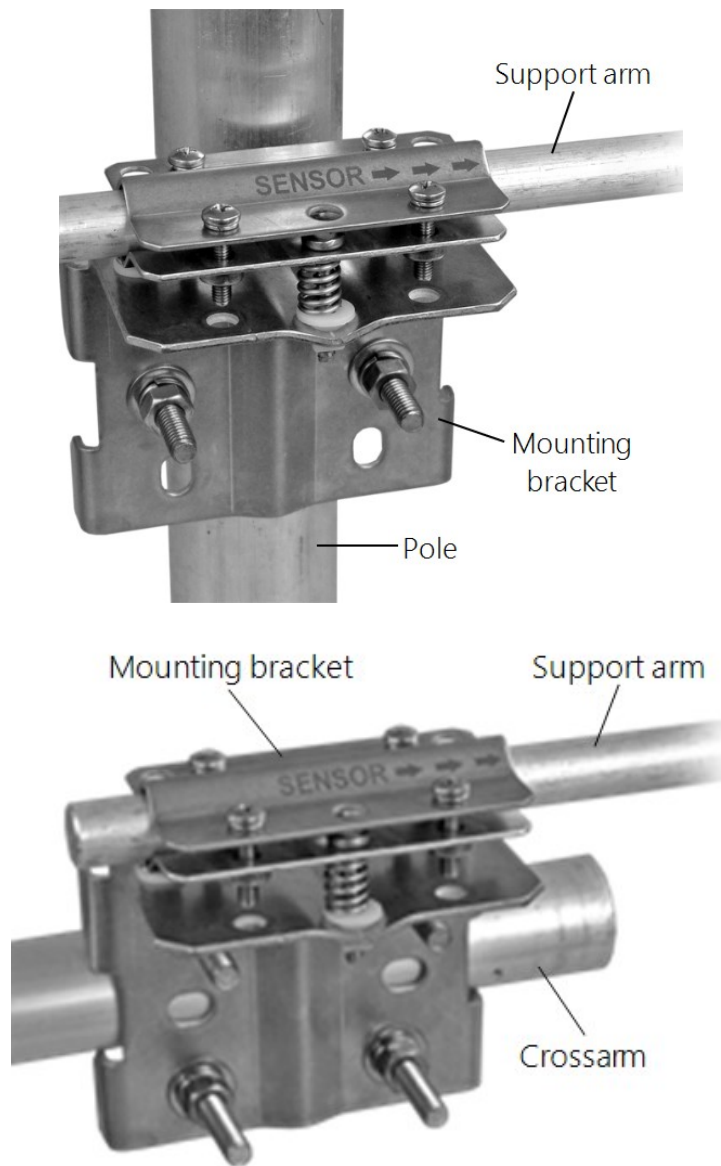

FIGURE 7-2. Mounting the NR-LITE2 onto a pole (top) and crossarm (bottom) via the Net Radiation Sensor Mounting Kit
2. Attach the mounting bracket to the vertical mounting pipe, or CM200-series crossarm using the provided U-bolt (see FIGURE 7-2 (p. 9)).
3. Insert the sensor support arm into the mounting block of the mounting bracket kit. Make sure the sensor points in the direction of the arrows that appear after the word **SENSOR** on top of the bracket (see FIGURE 7-2 (p. 9)).
5. Tighten the four screws on top of the mounting bracket to properly secure the support arm so that it does not rotate (see FIGURE 7-2 (p. 9)).
6. Perform the fine levelling using the two spring-loaded levelling screws—one on the front and the other on the back of the bracket (FIGURE 7-2 (p. 9)).